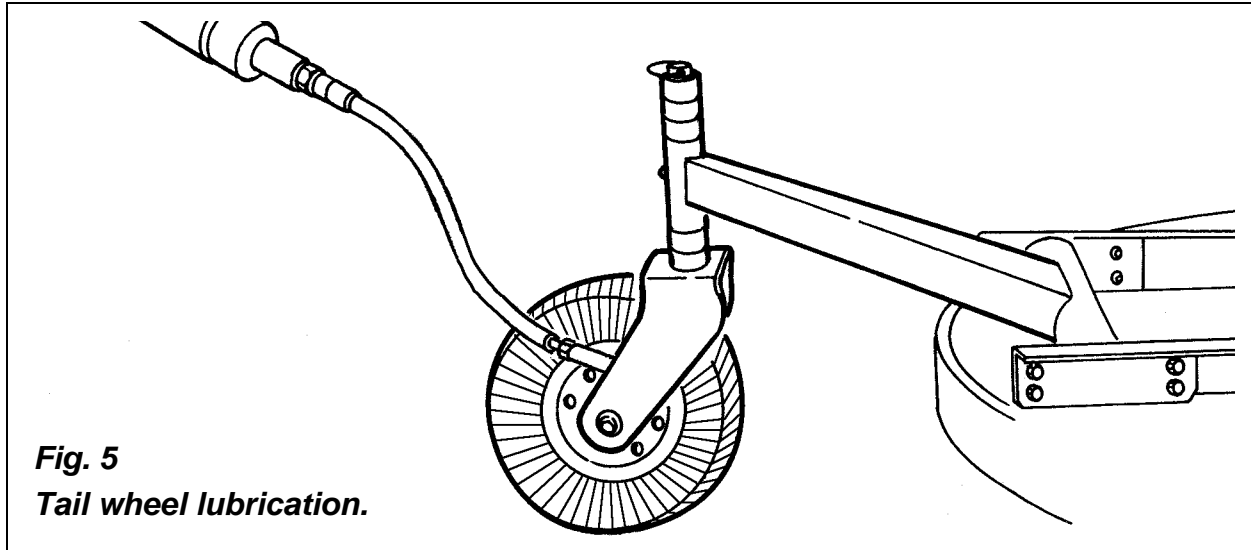

Fig. 5
1. **Lubricate driveline, lubricate caster wheel and tail wheel yoke (see fig. 4, 5 & 6):** Apply two or three shots of grease to the driveline cross and bearings and to the inner and outer locking rings (see fig. 6); apply the same amount to the wheel yoke (see fig. 4) grease fittings and the wheel grease fittings (see fig. 5). (See the driveline manufacturer operator's manual for further information on the driveline.)